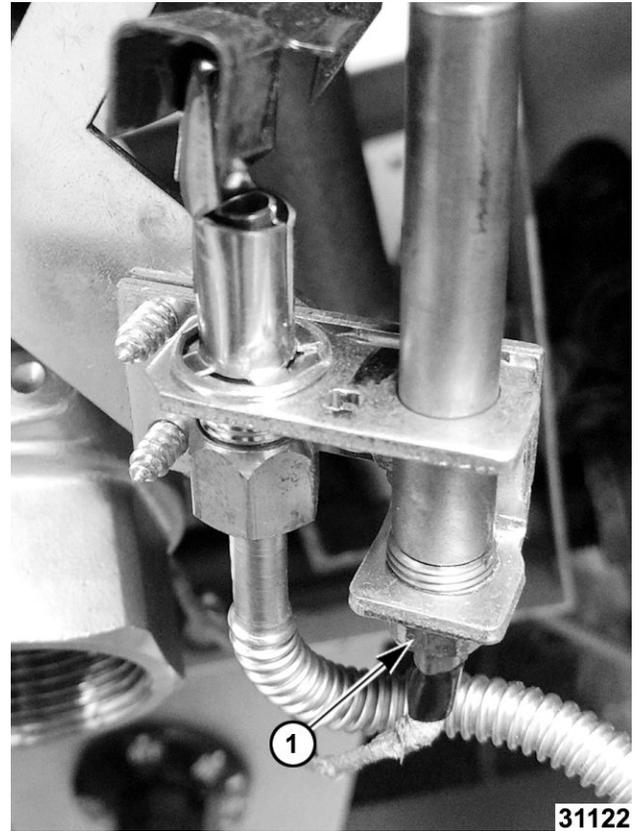

Fig. 17
- Loosen thermopile holding nut (1, Fig. 17).